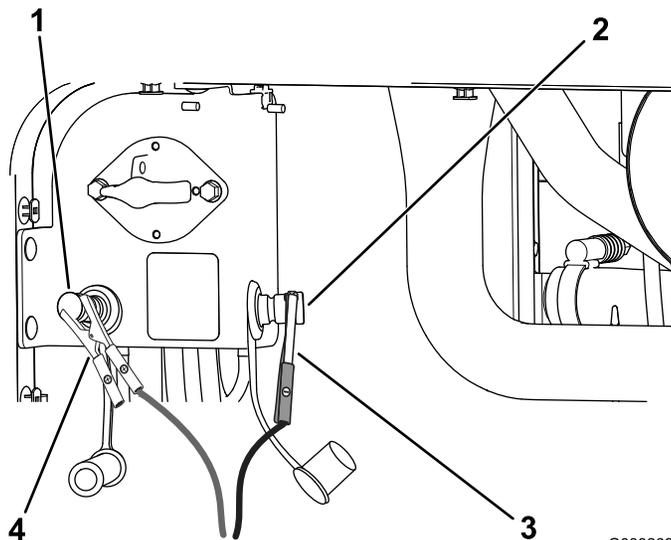

Figure 111
- Connect the positive (+) jumper cable to the positive jump post (Figure 111).
- Connect the negative (-) jumper cable to the negative jump post (Figure 111).
- When the engine starts, have the other person disconnect the negative (-) jumper cable from the negative jump post and then disconnect the positive (+) jumper cable (Figure 111).